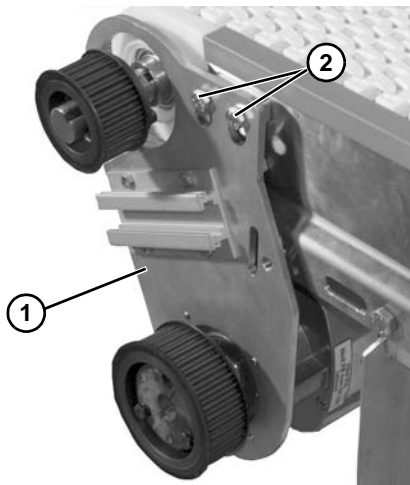

Figure 4
3. Attach bottom mount assembly (Figure 4, item 1) with the two bolts (Figure 4, item 2).